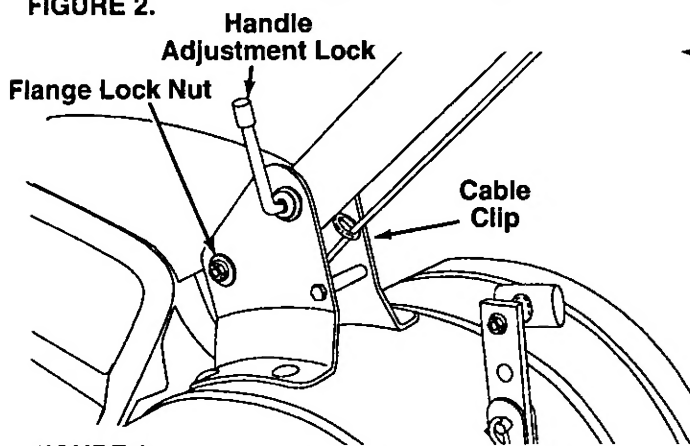
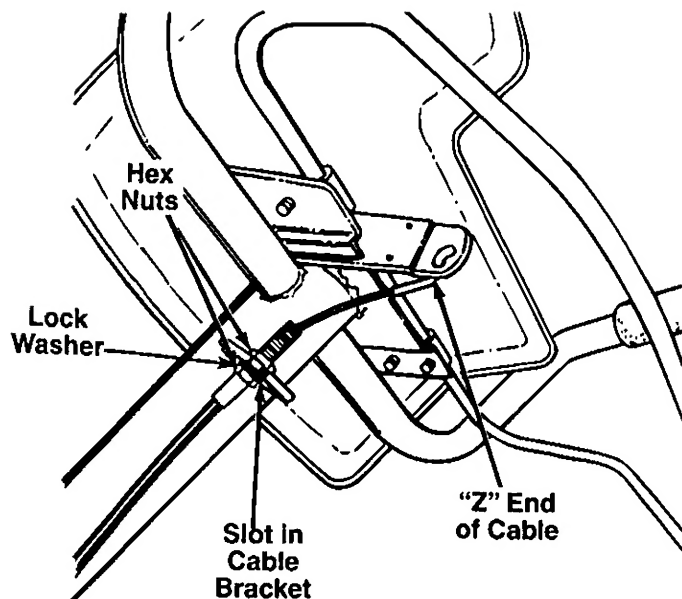

FIGURE 3.
FIGURE 6.—Viewed beneath handle panel.
5. Secure the bottom of handle by placing flange lock nut on hex bolt. Do not tighten at this time. See figure 3.
1. Route the clutch cable through the cable clip underneath the handle. Be careful not to bend or kink the cable. Refer to figure 3. Remove one hex nut from the threaded casing on the end of the cable. See figure 6.
3. Pull the cable upwards to obtain slack, and hook the "Z" end of the cable into the bracket on the clutch control (beneath the handle panel) as shown in figure 6 (from right to left). Tighten the nut against the cable bracket.
If the belt turns with the unit in neutral, adjust by moving the hex nut below the cable bracket **down** two complete turns. See figure 6. Tighten the upper hex nut against the bracket.